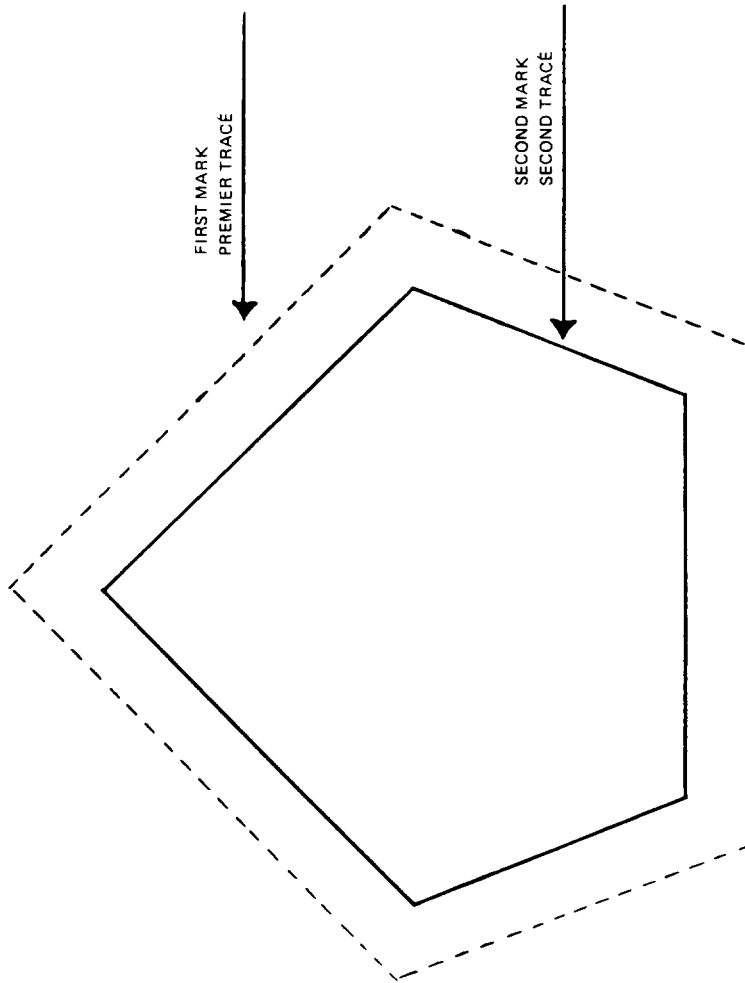

Figure 3-16 Tent Roof Shelter - Stage 1
- b. With the tent removed, mark the snow again, approximately eight inches inside the first mark (see Figure 3-16).